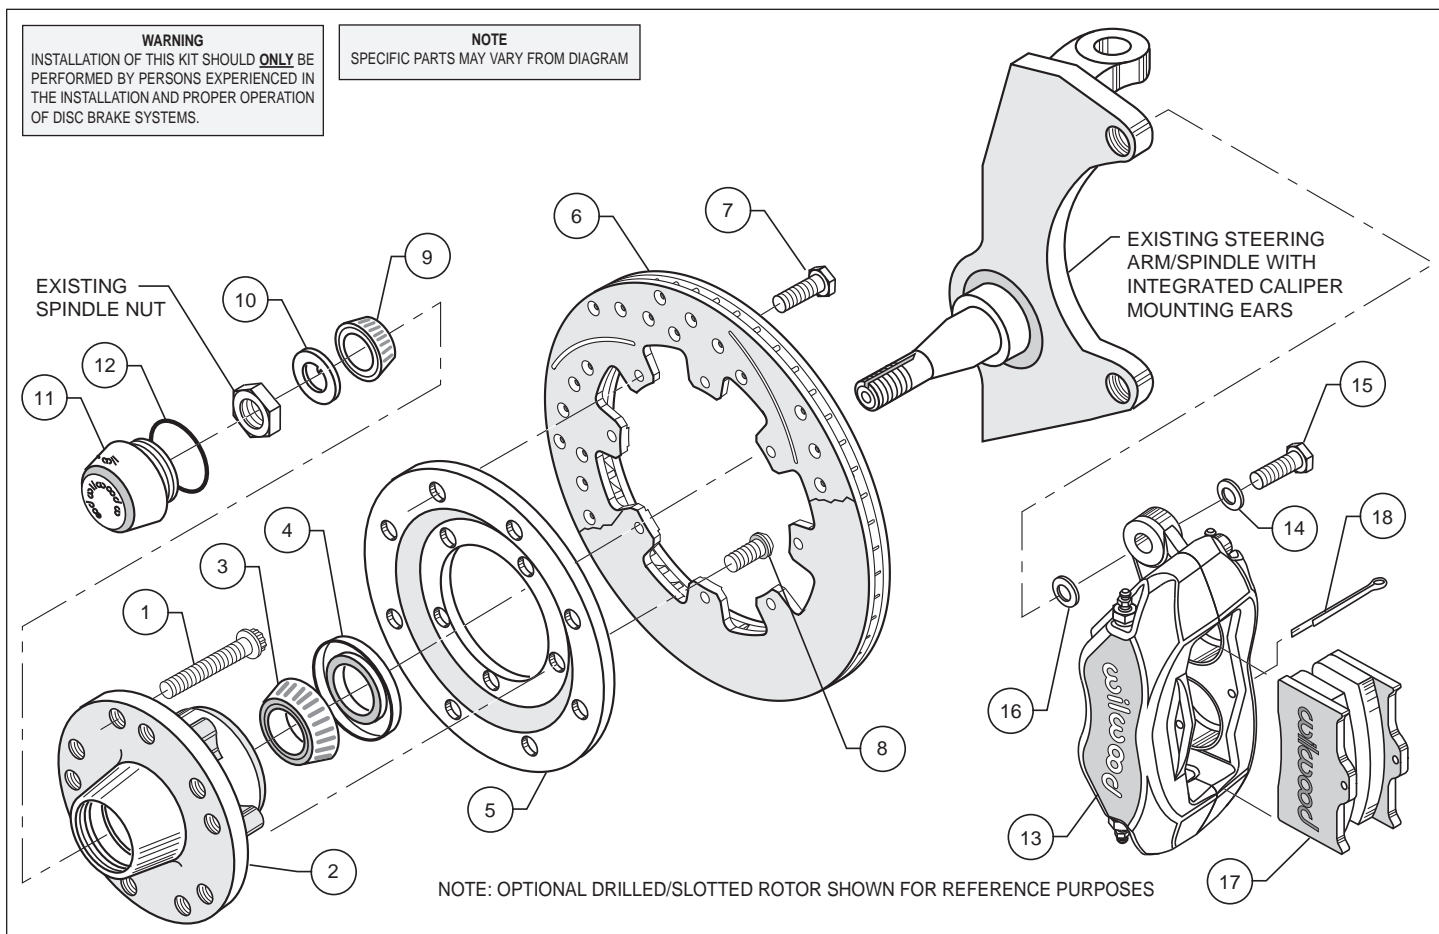
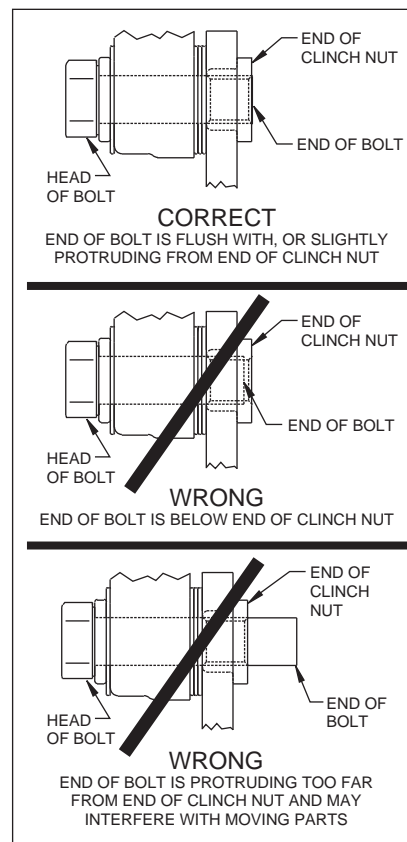

Figure 1. Typical Installation Configuration
Figure 4.
•Mount the adapter/rotor assembly (5/6) to the hub (2) using bolts (8), as shown in Figure 1. Using an alternating sequence, apply red *Loctite*® 271 to the threads, and torque to 55 ft-lb. Safety wire bolts as shown in Figure 4.
•Pack the small outer bearing cone (9) with high temperature disc brake bearing grease and install into front of hub (2). Slide the hub/rotor assembly (2 and 6) with outer bearing cone (9) onto the spindle. Secure using spindle washer (10), stock adjusting nut and nut locking device. Adjust bearings per Original Equipment Manufacturer (OEM) specifications.
•Install the dust cap (11) onto the hub (2). Friction created by the o-ring (12) on the dust cap (11) keeps it from unscrewing. The O.D. of the existing spindle washer may be larger than the I.D. of the dust cap (11) not allowing it to seat against the hub face. Some grinding on the washer O.D. may be necessary to clear the I.D. of the dust cap (11).
•**NOTE:** Please reference the caution statement at the beginning of the assembly instructions. Mount the caliper (13) to the spindle utilizing the existing holes provided in the mounting ears using washers (14) and bolts (15). Finger tighten. View the rotor (6) through the top opening of the caliper (13). The rotor (4) should be aligned in the center of the caliper (13). If not, adjust the caliper (13) by using 0.032 inch thick shims (16) placed between the caliper mounting ears and the caliper (13). Finger tighten and recheck alignment. Add as many shim washers (16) as necessary to achieve the correct alignment. **NOTE:** The end of the bolt must be flush with or slightly protruding from the head of the clinch nut. See Figure 4. Place spare shims (16) between washer and caliper mounting ear to achieve the proper mounting fastener configuration. Always use the same amount of shims on both the top and bottom caliper mounting bolts (15). Apply red *Loctite*® 271 to bolt threads (15) and torque to 40 ft-lb. Safety wire caliper bolts (15).
•Install the disc brake pads (17) and secure using cotter pin (18).